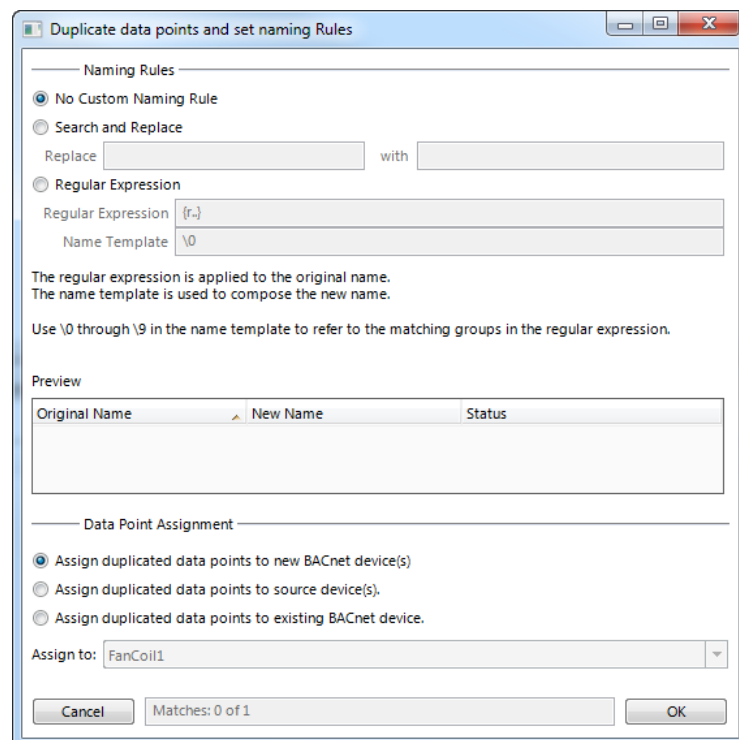

Figure 129: Duplicate BACnet devices.
3. The **Duplicate data points and set naming rules** dialog opens as shown in Figure 129.